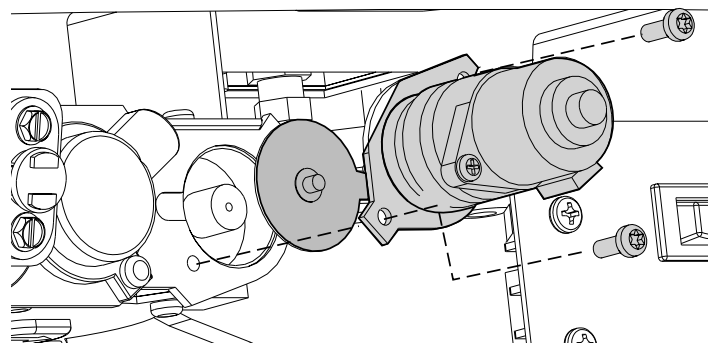

Figure 27. Manual Regulator replacement.
12. **Replace the Valve Regulator.** Using a Torx T-20 screwdriver, remove the two screws from the front of the regulator. Remove the regulator components and replace with the one from the conversion kit. See fig. 27.